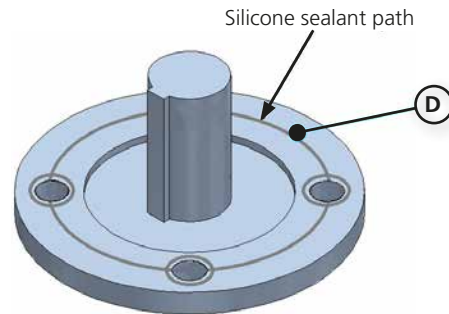

Figure 5 – Sealing of valve mounting flange
- 3) It is recommended that flanges be sealed on assembly with silicon sealant. Apply a ring of silicone sealant around the mounting face of the flange, the ring should be at the same radius from the shaft as the bolt holes. Apply small rings of sealant around each of the bolt holes to completely seal the faces. The path marked 'D' in Figure 5 shows where sealant should be applied to the valve mounting flange. For acceptable sealants, see Table 4 on page 16.
If an actuator is to be used to operate the gearbox, then the mating faces between the gearbox input flange and the actuator output must be sealed prior to assembly using a ring of silicone sealant applied at the same radius as the bolt holes, a small ring of sealant should be applied around each bolt hole to completely seal the faces (see Figure 5).